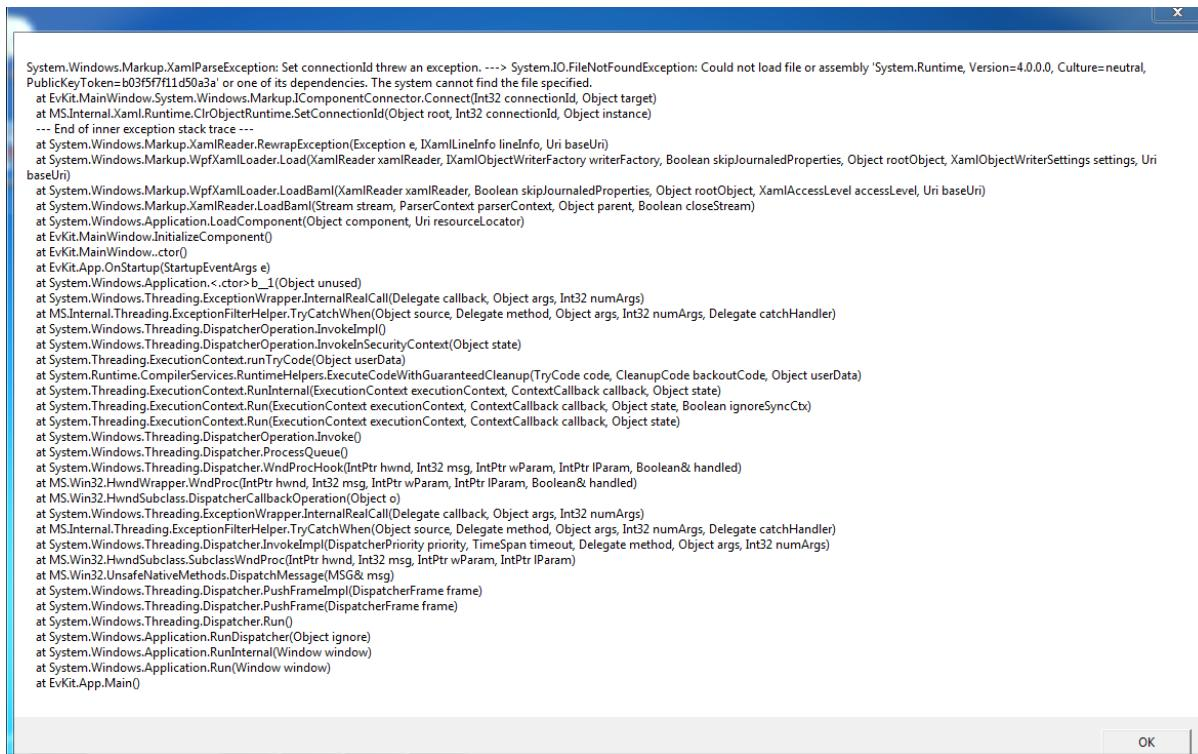

Figure 23: A Windows error message which indicates that Windows .NET installation is out-of-date.
- If an error message shown in Figure 23 appears, the Windows .NET installation is not up-to-date. Please run Windows update in order to solve this.